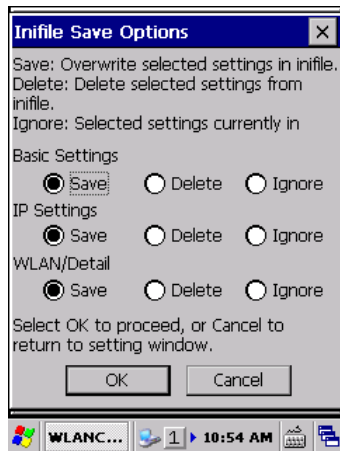

Figure 5.24
5. If **OK** button in the popup warning message (see Table 5.7 for description of NetUI/NetUI radio button) is clicked, the screen in Figure 5.24 appears. Click **OK** button to perform a reset on the terminal so that the setting takes effect.